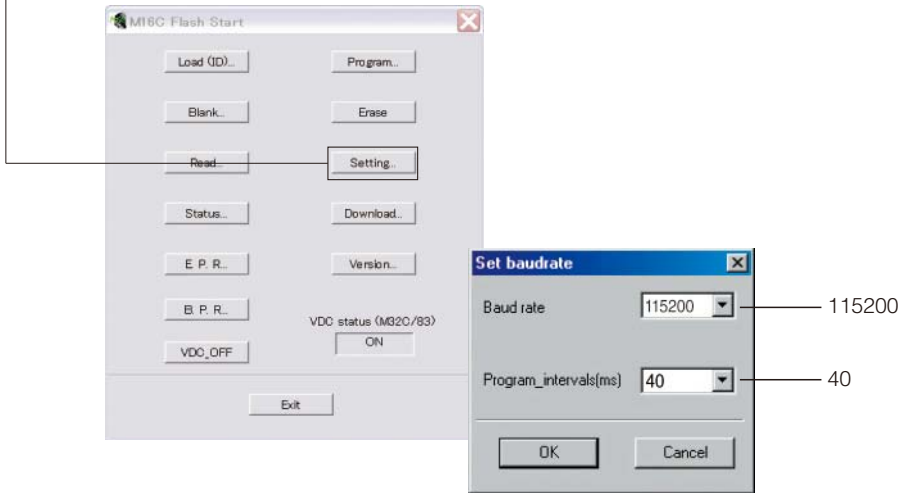

Fig. 4
5. Click [Setting], and set the baud rate. (Fig. 4)